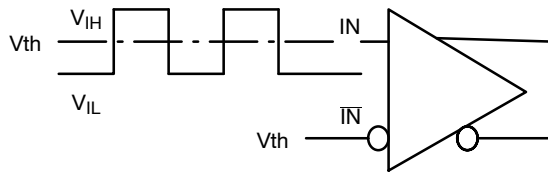

Figure 11. Differential Input Driven Single Ended
**DIFFERENTIAL CLOCK INPUTS DRIVEN SINGLE-ENDED (Figure 11 & 13) (Note 23)**